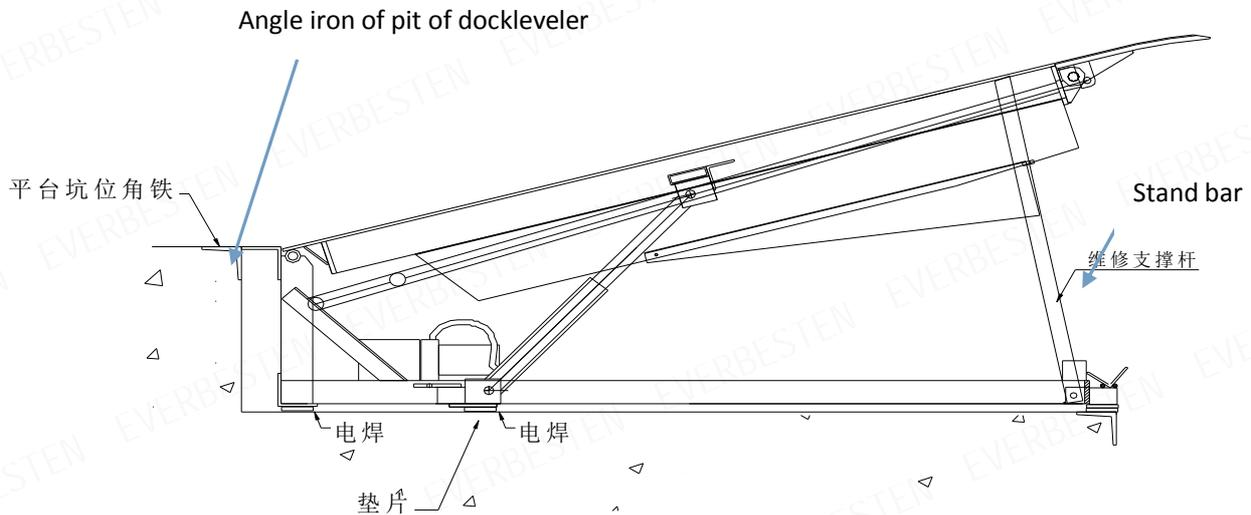

Figure-6
13. Welding the pad of main hydro-cylinder and base plate together. (Figure-6)